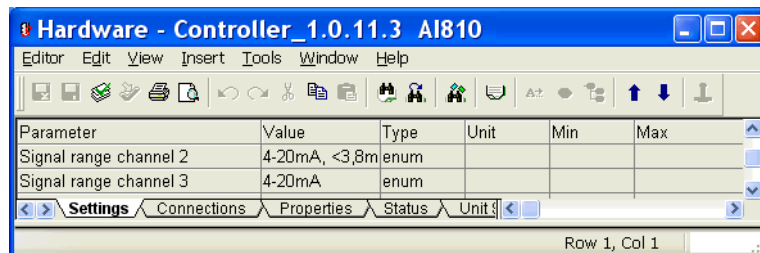

Figure 15. Example Settings Tab
3. These are the connections found on the property tabs accessed through Control Builder. Refer to Figure 15.